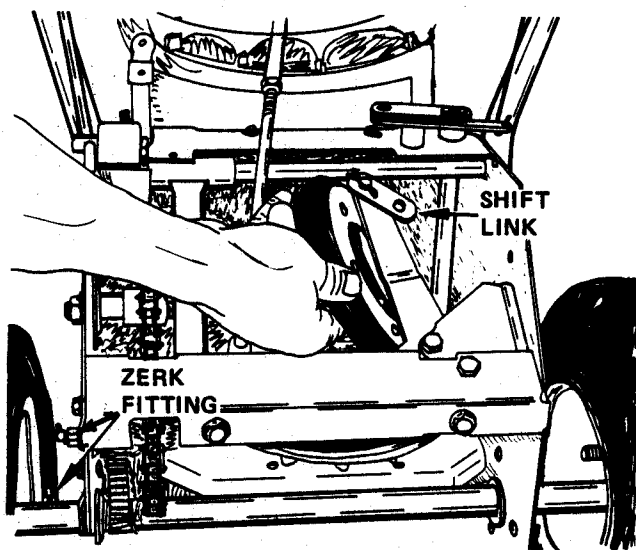

FIGURE 12
- Place the speed selector in FIRST position. Depress the wheel drive clutch lever to hold the friction wheel while the five bolts securing the friction wheel to the hub are loosened. Remove the five bolts, shift to THIRD position and disconnect the shift link. See Figure 12.